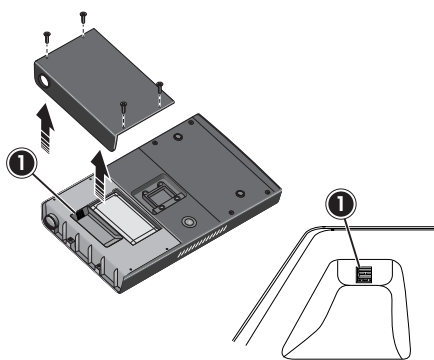

Fig. 30: USB port
2. ➤ Insert the miha-bodytec USB flash drive into the USB port (Fig. 30/1).